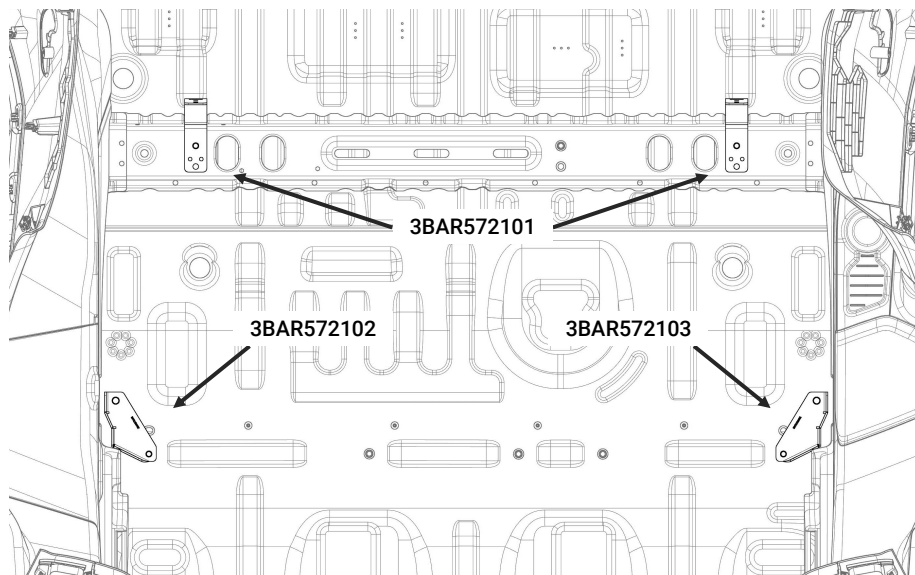

Figure 1
- A. Locate the points where the storage drawer brackets will mount. Figure 1 shows the Barrier brackets that the storage drawer brackets will mount on top of if present - the floor covering is not shown in the figure. If the storage drawer is being installed without a Barrier, the same locations will be used but the storage drawer brackets will bolt directly to the floor pan.